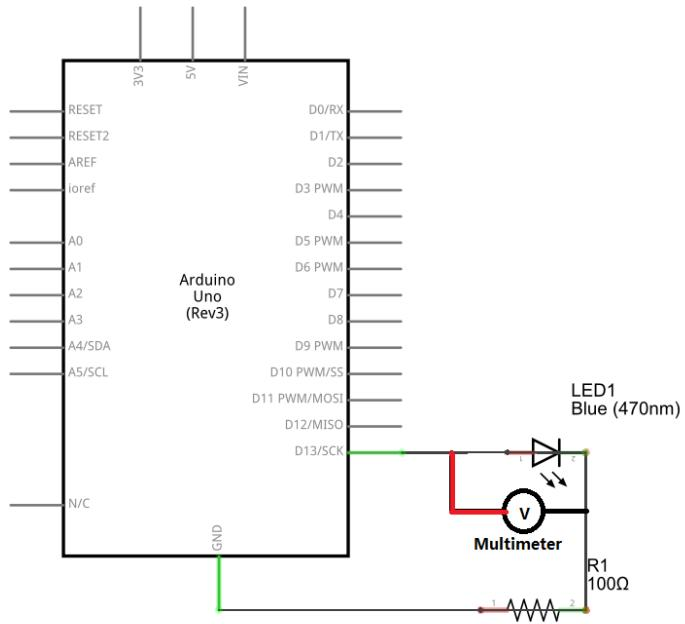

Figure 1.9: Use Multimeter as a Voltmeter.
1. *Unplug the Arduino (**Warning:** only touch the plastic parts of the USB cable and the Arduino board) and set up the circuit to measure $V_{Forward}$ as shown in Fig. 1.8. It is best to use the alligator clips and to connect them jumpers coming out of the appropriate notches of the breadboard as shown in Fig. 1.8. Do not directly connect the alligator clips to the resistor or the LED to avoid accidentally shorting them. The schematic of your circuit should look like Fig. 1.9. Call your instructor or TA to check that your circuit is correct.*